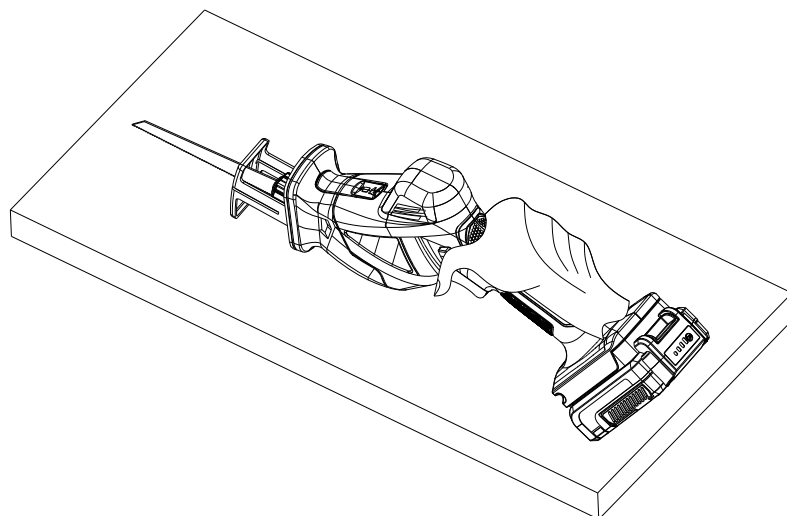

Fig. 9
A) Working without clamping jaw (Fig. 9)